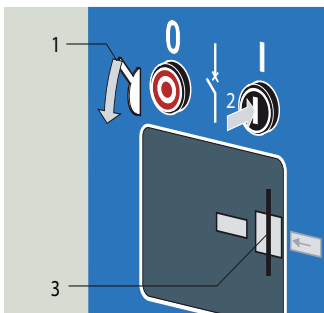

Fig. 10.21
Press the left-hand lever down (Fig. 10.21, 1). To switch ON, press the black pushbutton (right-hand - 2). The circuit-breaker is switched ON. The position indicator indicates "ON" (3).